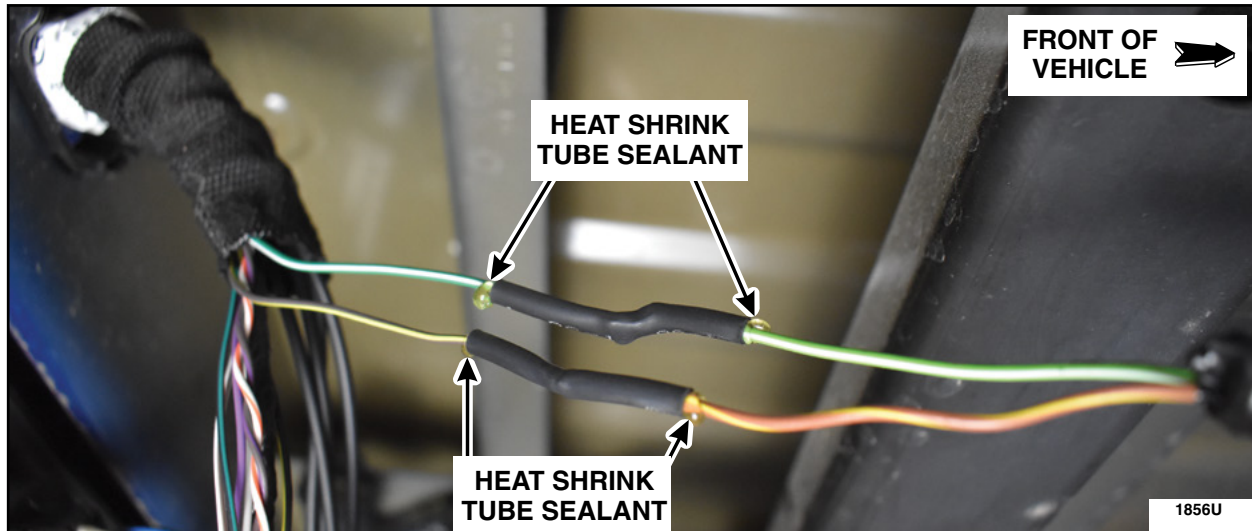

FIGURE 23
26. Position the dual wall heat shrink tubes over the solder joints making sure the joints are located in the middle of the tubes. Evenly heat up the heat shrink tubes until the heat shrink tube sealant bubbles out of both ends. See Figure 23.